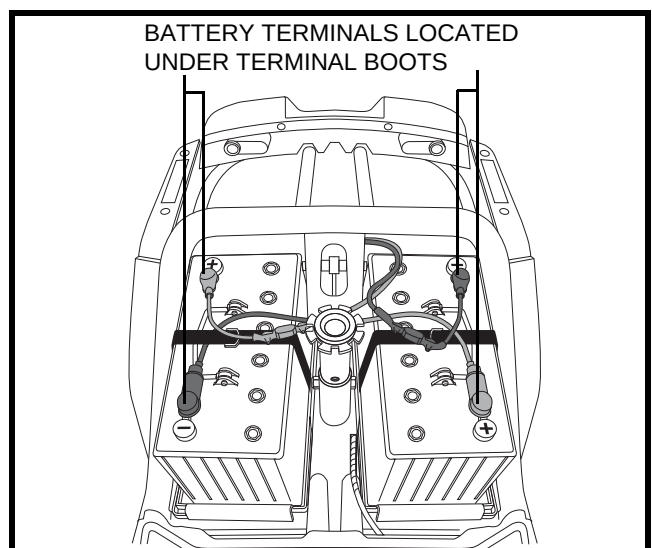

Figure 14. Battery Removal/Replacement
5. Disconnect the battery cables from the battery terminals by sliding back the terminal boots and unscrewing the nut from the bolt. **See figure 14.**